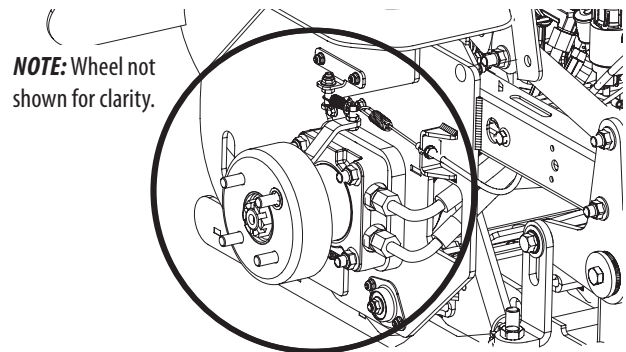

Fig. 20
- Clean around and near the transmission, axle and the fan area (Fig. 20).